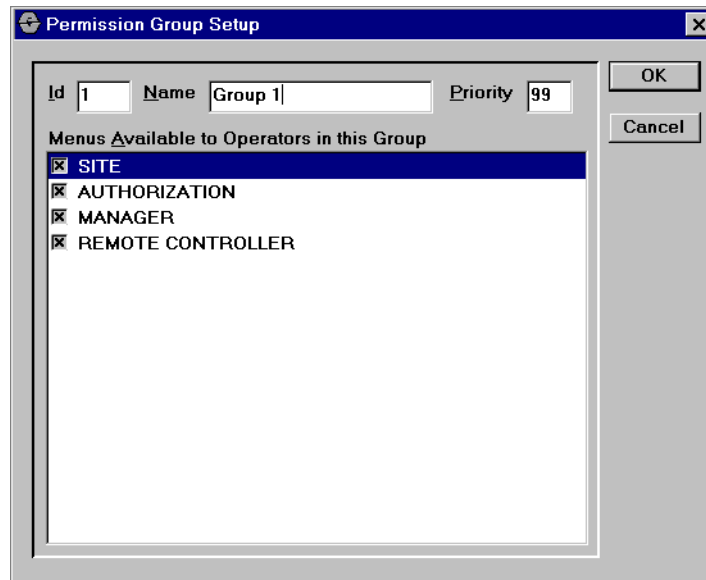

Figure 48: Permission Group Setup Window
2. Double-click a list item to open the Permission Group Setup dialog box (*Figure 48*).